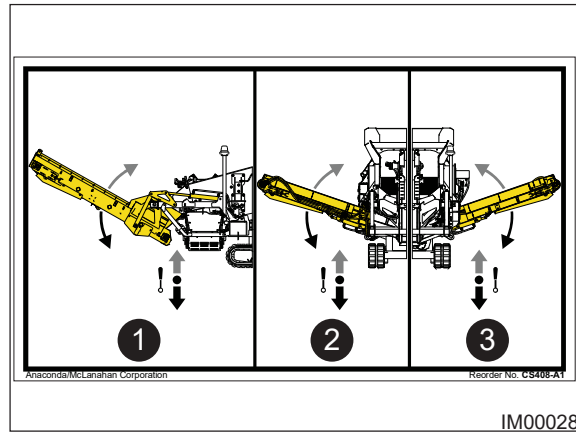

Fig: 7.13 - Control Levers
5. Slow and carefully push **DOWN** the Control Lever (Item 3, Fig: 7.13) to unfold the fines size conveyor.